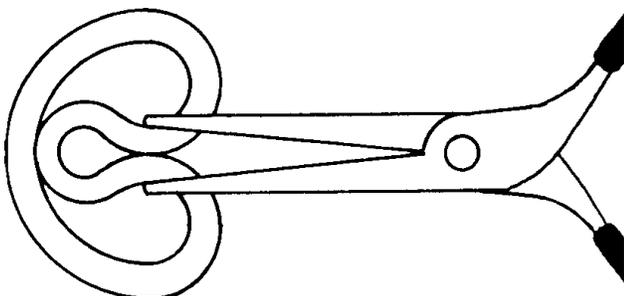

FIGURE B-1. U-CUP INSTALLATION
Position the cylinder (3) with the wiper pocket up. Grasp the u-cup (17) with the needle-nosed pliers (Figure B-1) and insert it into the cylinder. Allow it to snap into place, helping with the fingers if necessary.
Position the cylinder with the teeth up. Grip the u-cup (17) with the needle-nosed pliers (Figure B-1) and insert it into the cylinder. Allow it to snap into place, helping with the fingers if necessary.